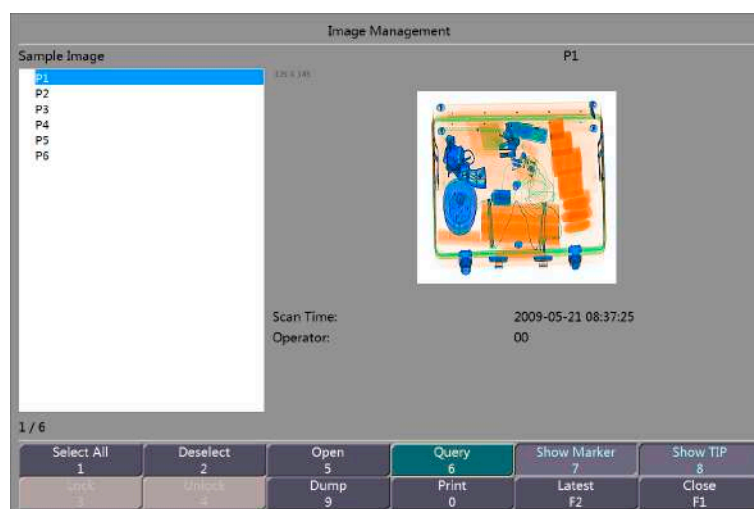

Figure 14-3 Image Management Interface Displaying Sample Images
Step 4 After the selection, Click “OK” or press “F1” on the operation keyboard. The image class to query is displayed on the Image Management interface. Figure 14-3 shows the Image Management interface displaying sample images.